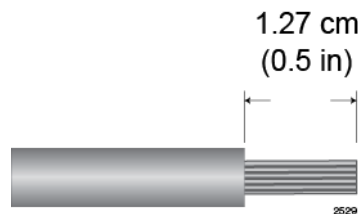

Figure 108. Stripping the Stranded Grounding Wire
1. Prepare an adequate length of stranded 10 AWG grounding wire by stripping it as shown in Figure 108.